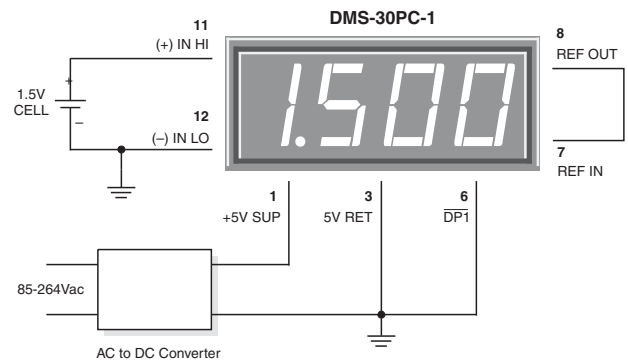

Figure 5. Floating Input Measurements
4. Floating Signal Source Measurements: Floating signals can be measured using the circuits shown in Figures 5 and 6. Connecting